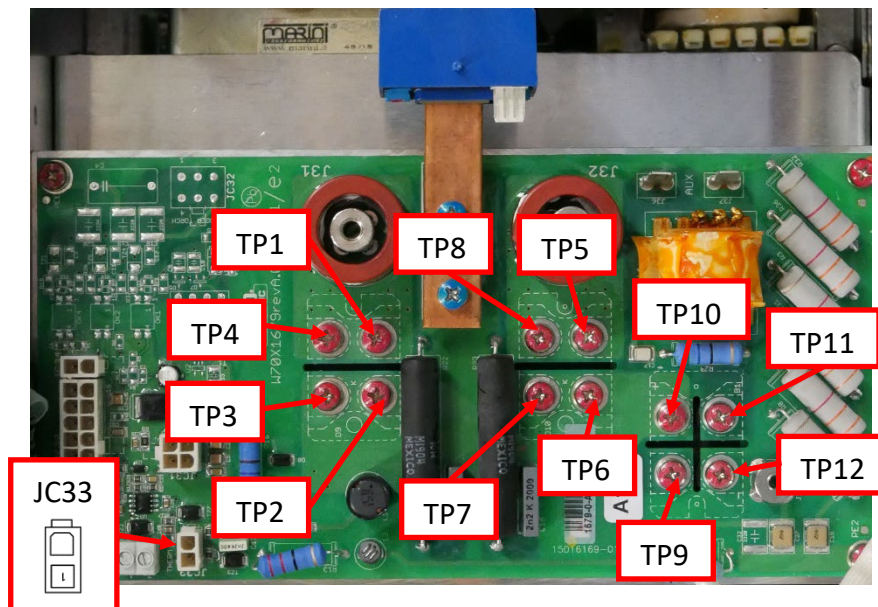

Figure F.3
- A.3. Perform the static measurements in Test Table 1, refer to Figure F.3 for test point locations. **NOTE: DO NOT REMOVE ANY MOLEX CONNECTORS FROM BOARD.**